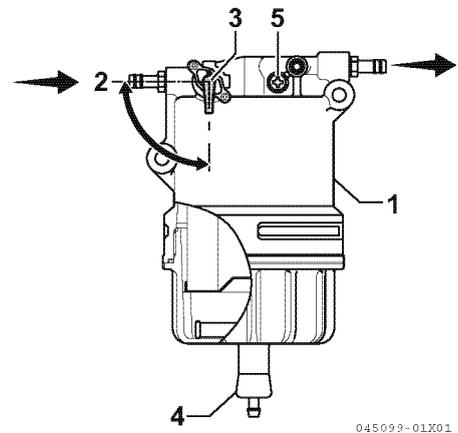

Figure 5-5
1. Position an approved container under the water separator (1, **Figure 5-5**) to collect the contaminants.
2. Close the fuel valve (3, **Figure 5-5**) by turning it to (2, **Figure 5-5**) position.
3. Open the drain valve (4, **Figure 5-5**) at the bottom of the water separator. Drain any water collected inside. If no water comes out, loosen the air vent screw (5, **Figure 5-5**) at the top of the water separator by turning it counterclockwise 2 - 3 turns.
4. If still no water comes out, open the fuel valve (3, **Figure 5-5**).